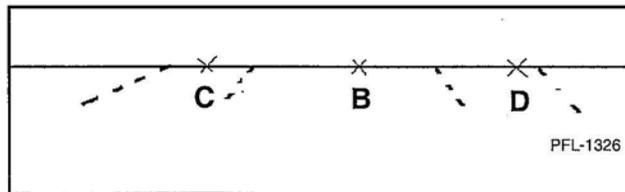

Figure 6
- Locate the three marks on the first floor. Using a chalk line, snap a line between C and D. Extend center line to front of carriage. See Figure 6.
- Place carriage in position as shown on GA drawing. Align carriage on snap line and floor marks. See Figures 6 and 7.